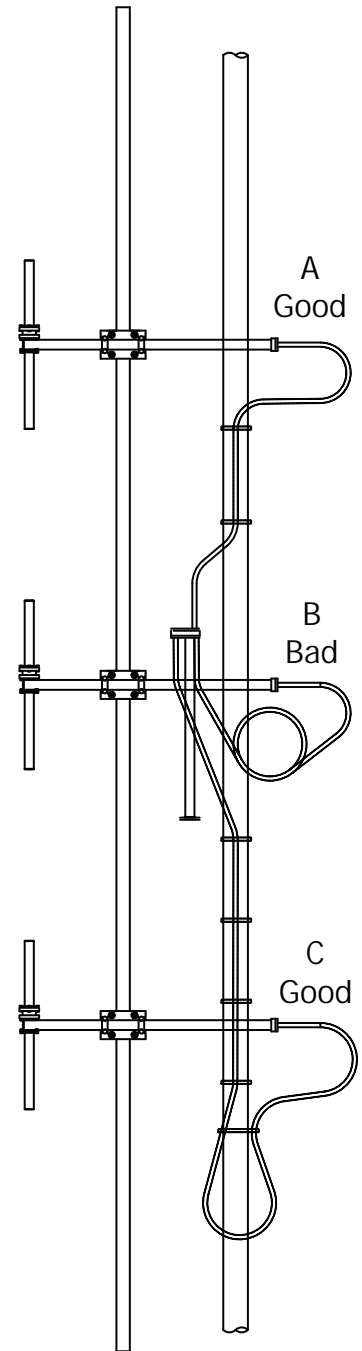

Figure 4.
- g. DO NOT COIL any excess cable. Dress up any excess cable and tie-wrap it to the tower leg, as shown in Figure 4, to prevent wind damage to the cable or the antenna. When feasible, route the cables to take advantage of shielding from tower members to minimize added windload.